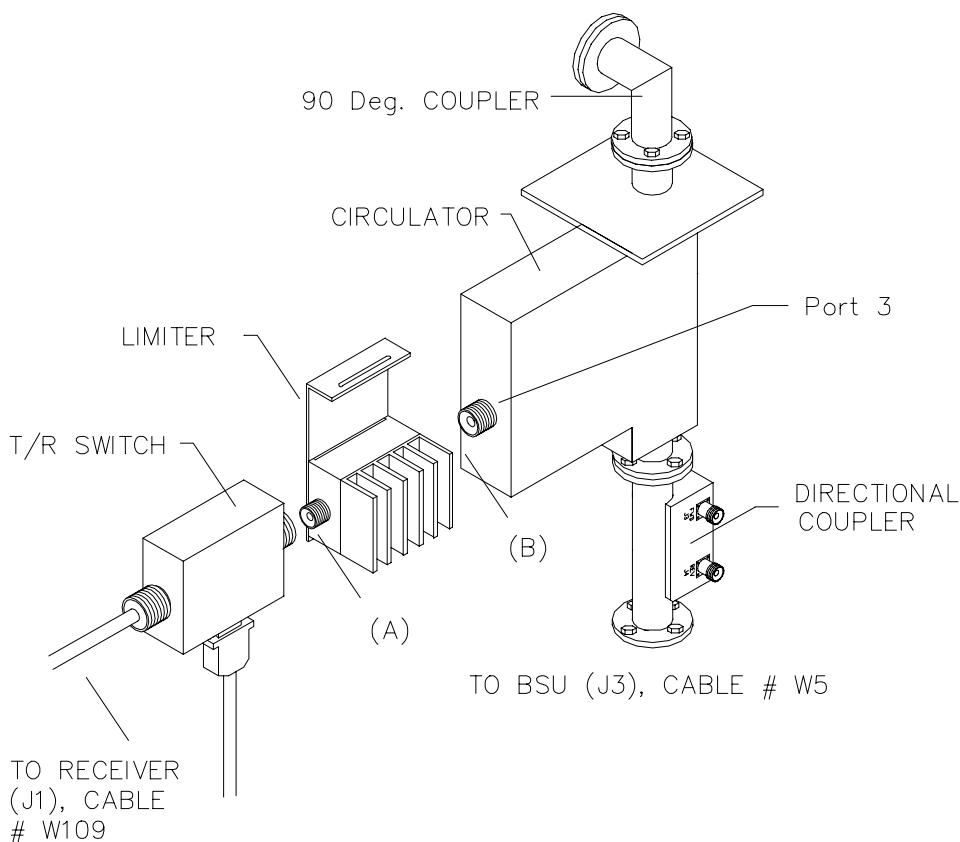

Figure 5-9 Limiter Replacement
3. Unscrew the type "N" connector between the T/R Switch and the Limiter, and disconnect the T/R Switch from the Limiter (see Figure 5-9).